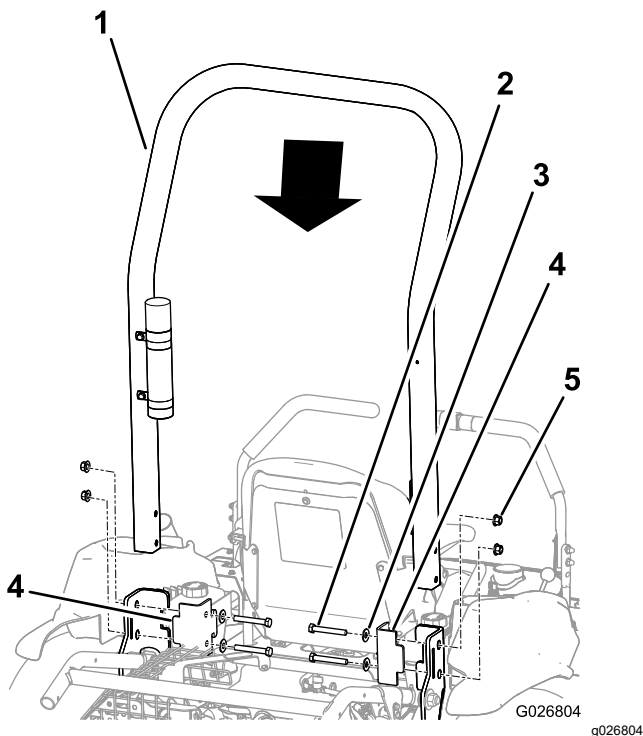

Figure 6
2. Place the roll bar on the machine as shown in Figure 6.